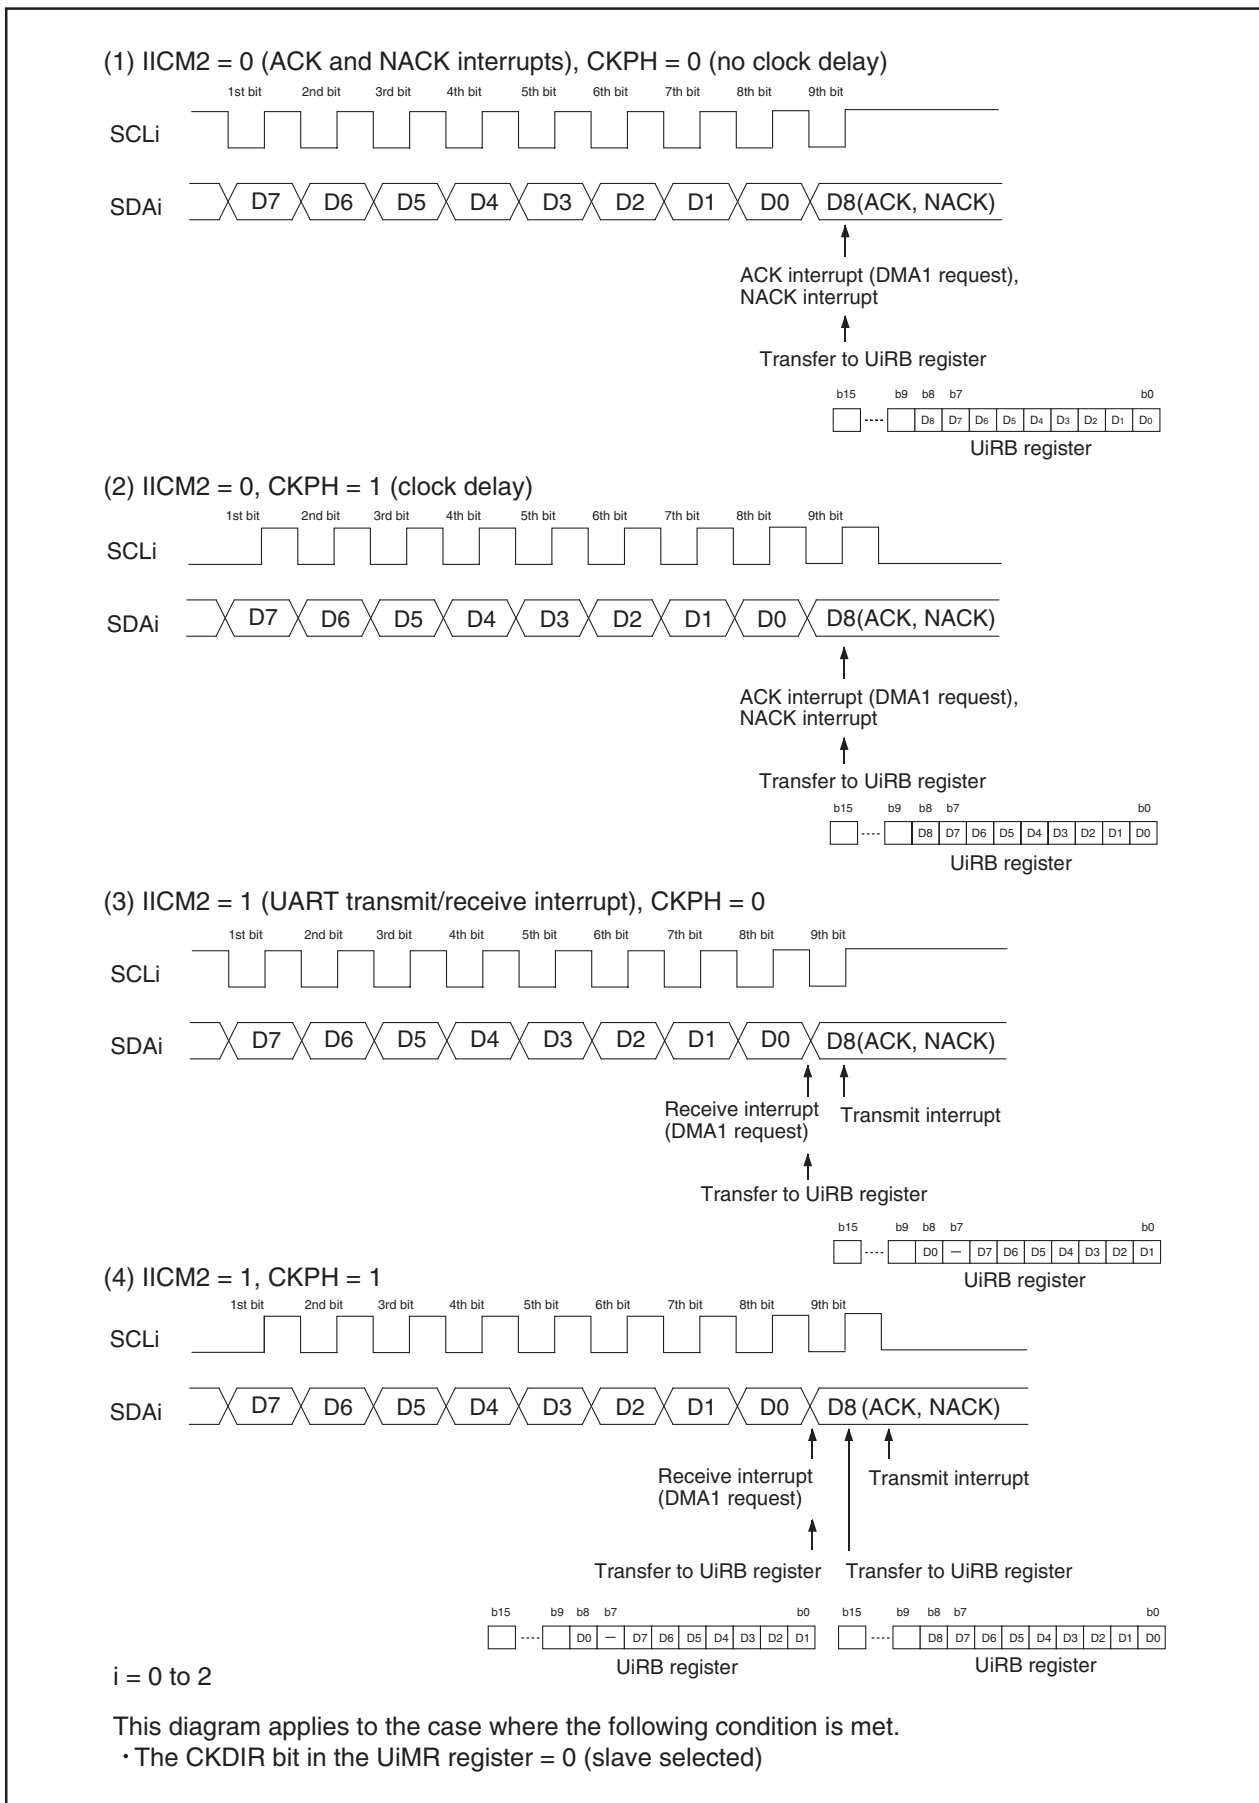

Figure 15.24 Transfer to UiRB Register and Interrupt Timing
- See **Figure 15.24 Transfer to UiRB Register and Interrupt Timing**.
Data is transmitted/received using a transfer clock like the one shown in Figure 15.24 Transfer to UiRB Register and Interrupt Timing.